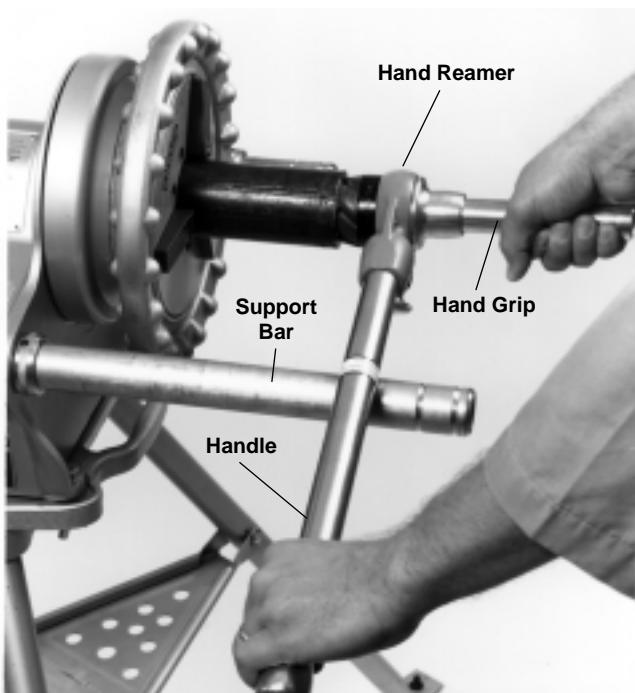

Figure 7 – Reaming Pipe with Hand Reamer
2. Insert reamer into end of pipe and hold firmly onto handle and handgrip (*Figure 7*).
3. Step on foot switch and push on reamer handgrip (*Figure 7*) with right hand to ream pipe.